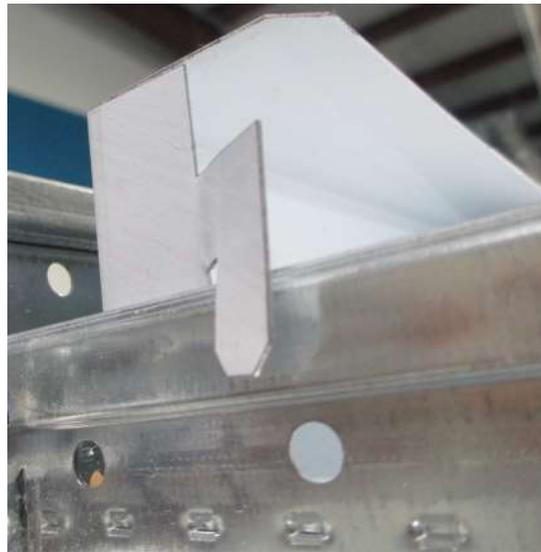

Figure 1
2. Bend Pre-installed Tee Grid Bar Clips to secure the luminaire in the Tee Grid System (Figure 1).